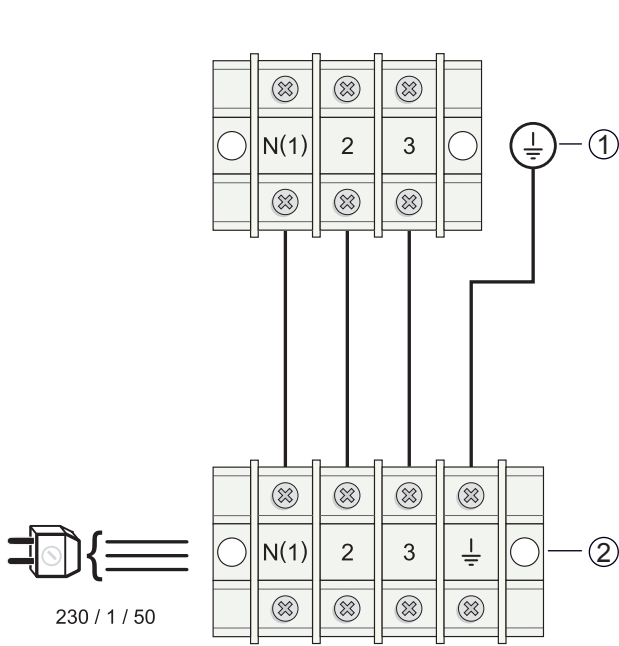

Fig. 11.4 Electrical layout for outdoor and indoor connection for VAI 3-025 WN and VAI 3-035 WN.
- Pass the electrical cable from the rear of the indoor unit through the specific hole in the front. Connect the cables in the indoor unit terminal space according to the corresponding connection layout. (Figure 11.4 and 11.5).